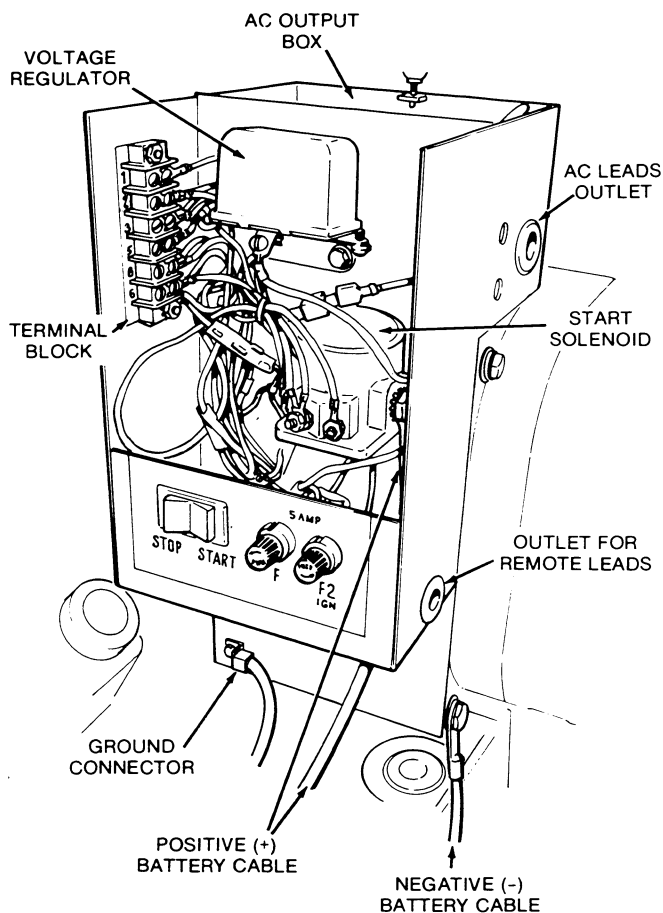

FIGURE 14. CONTROL BOX CONNECTIONS
2. The solderless connector located on the control box (Figures 14 and 15).
AC output wires are located in the compartment at the rear of the set control box (Figure 14). Remove the control box cover to gain access. Installation should be made by a qualified electrician and inspected by the local building inspector to be sure it meets all applicable code requirements.
Remove the cover from the control box and connect the positive (+) battery cable to the terminal marked "BAT" on the start solenoid (Figure 14). Connect the negative (-) cable to the generator through-bolt, as shown. Always connect the positive cable first to minimize the possibility of arcing.